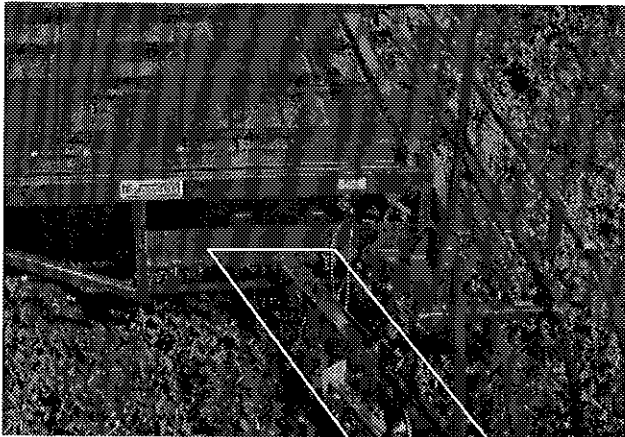
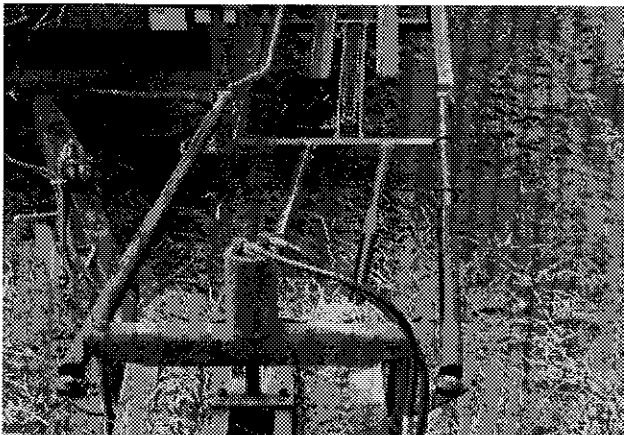

Figure 18
Figure 19
- 1) The length of the tongue and its angle must be adjusted (Figure 18) so that when a turn is being negotiated, the telescoping rails (Figure 19) are not extended beyond their maximum operating length nor beyond their shortest possible dimension to avoid bottoming. This must be checked when turning in both directions.